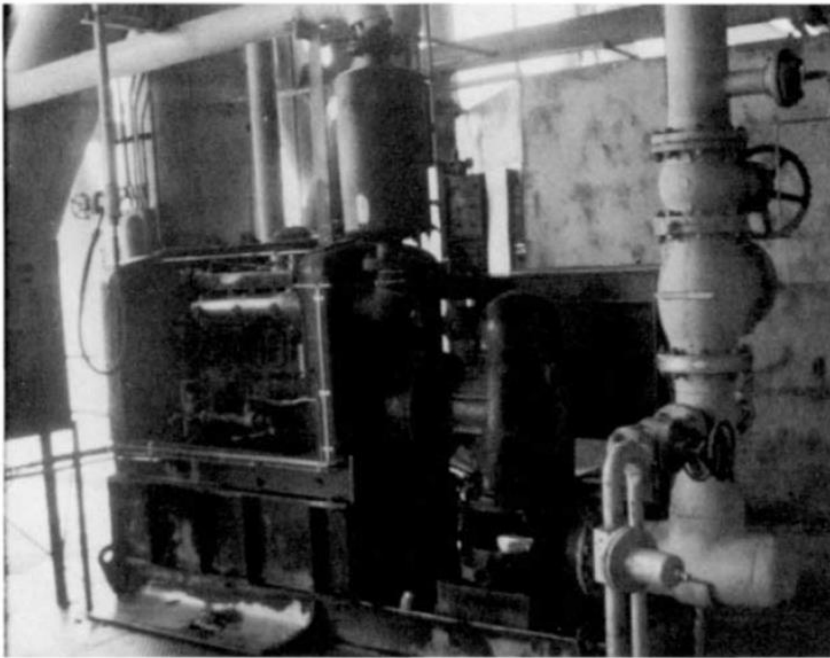

**Figure 1-20.** A pneumatic shut-in panel with “first-out” indication to inform the operator of which end element caused the shutdown.
4. Providing safety systems for detecting potential hazards (Figures 1-20 and 1-21),